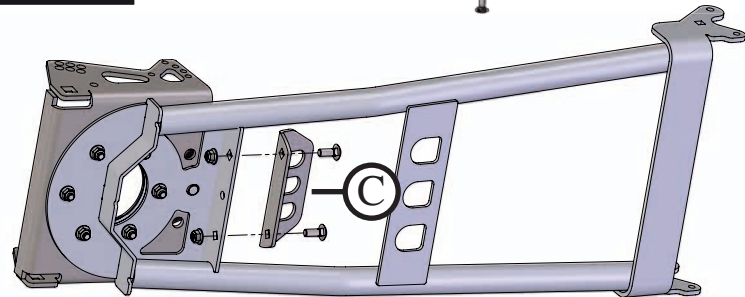

Figure 2
1. Remove the hook bracket {C} from the tube system. Shown in Figure 2.